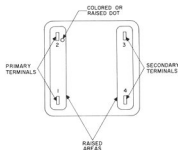

Figure 4-3. RF and IF Transformer Terminal Identification
- f. Place swamping tools, composed of a 0.01-uf capacitor in series with a 1000-ohm resistor, across terminals 1 and 2 of transformers T14 and T15 (see figure 4-3 for terminal identification). Tune the top slugs of T14 and T15 for maximum reading on the